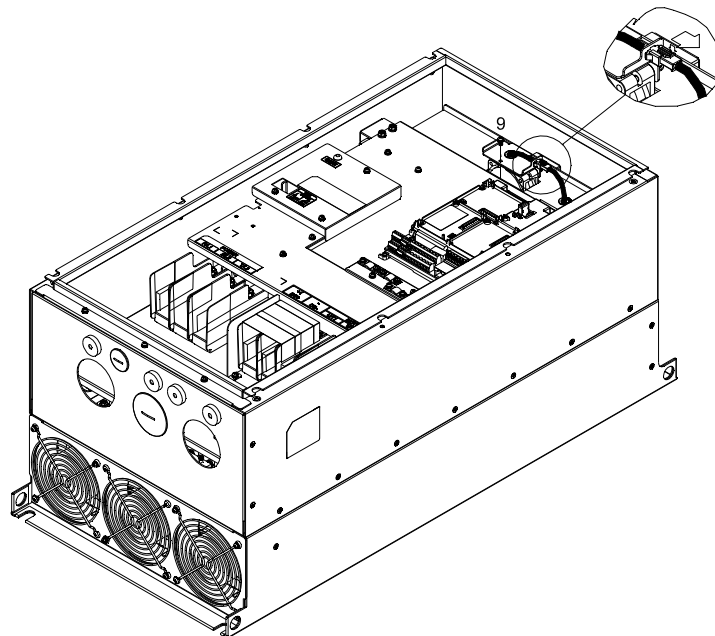

Figure 3
3. Loosen the screw 9 then remove the fan kit.(refer to Figure 3)